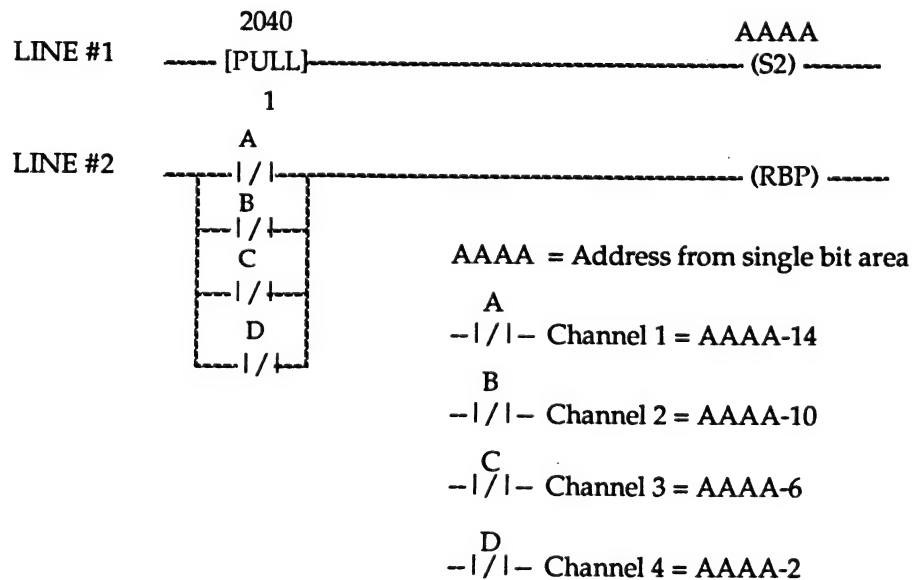

FIGURE 16 - LADDER LOGIC FOR INPUT/PULL DATA READY
1. Input/PULL data ready bit can be used on powerup to ensure the ladder logic program does not begin execution until the serial I/O system has been configured and is operating. This can be done with the lines of logic in Figure 16.